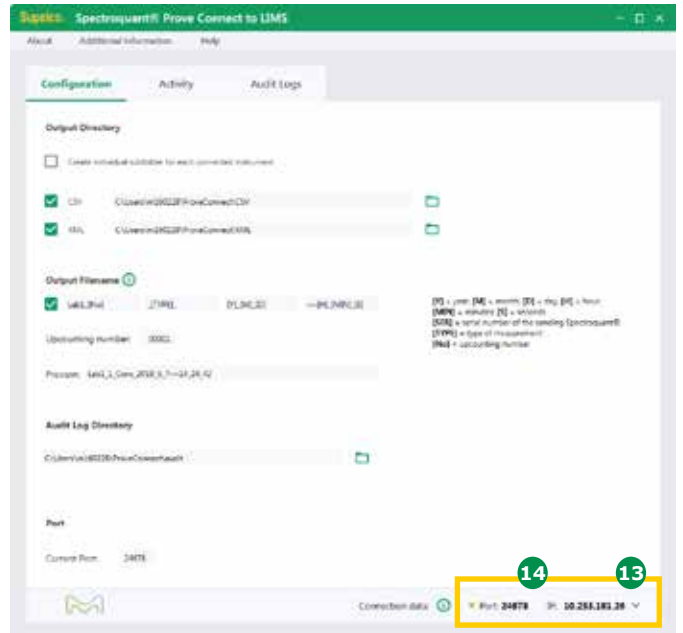

Figure 29 - Screenshot of Prove Connect for setup of network connection
7. Enter the IP address 13 and Port 14 (Figure 29) of the computer Prove Connect is running on into the Prove instrument.
9. Enter the IP address **13** (Figure 29) into the instrument.
12. Enter the Port **14** (Figure 29) into the instrument.